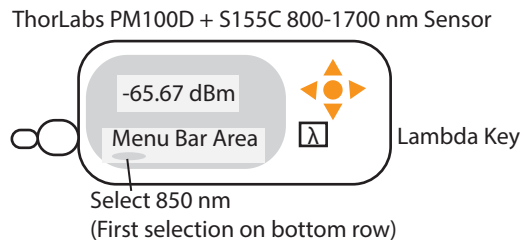

Figure 3-27. Power Meter – 850 nm Configuration
- a. On Front Panel select **Lambda** button as shown in Figure 3-27.
- c. On PM100D Meter select **OK** to choose 850 nm selection, as shown in Figure 3-27.